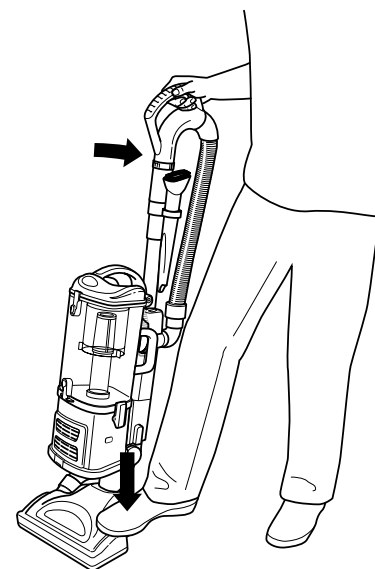

Fig. 11
- 4 To activate the brushroll, place your foot on the floor nozzle and recline the handle. (Fig. 11)